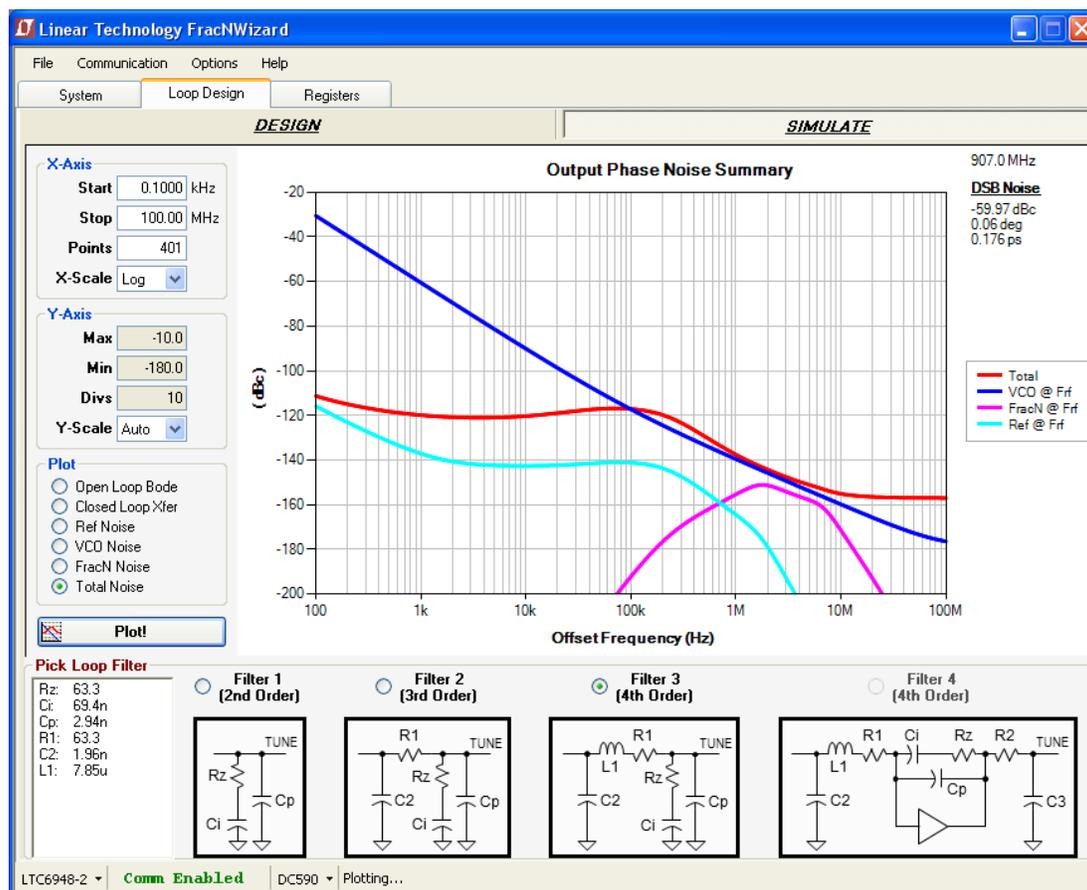

Figure 3. FracNWizard Screenshot
1. Verify that you are able to communicate with the DC1959A. The bottom status line in FracNWizard should read LTC6948 and Comm Enabled as shown in Figure 3. Refer to FracNWizard’s Troubleshoot and Help if not.